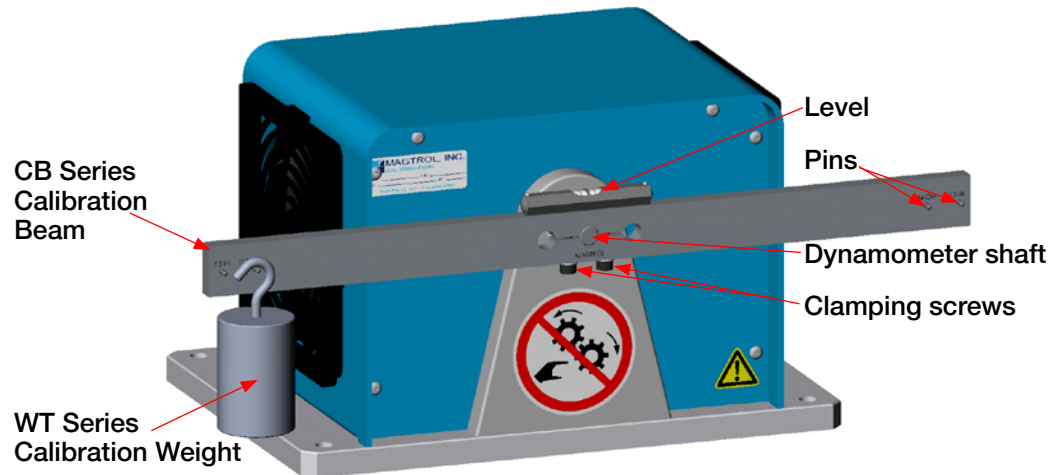

Figure 6–2 Calibration Setup
1. Place the calibration beam onto the dynamometer shaft, inserting the shaft through the center hole of the beam. Secure by tightening the clamping screws. See Figure 6–2.